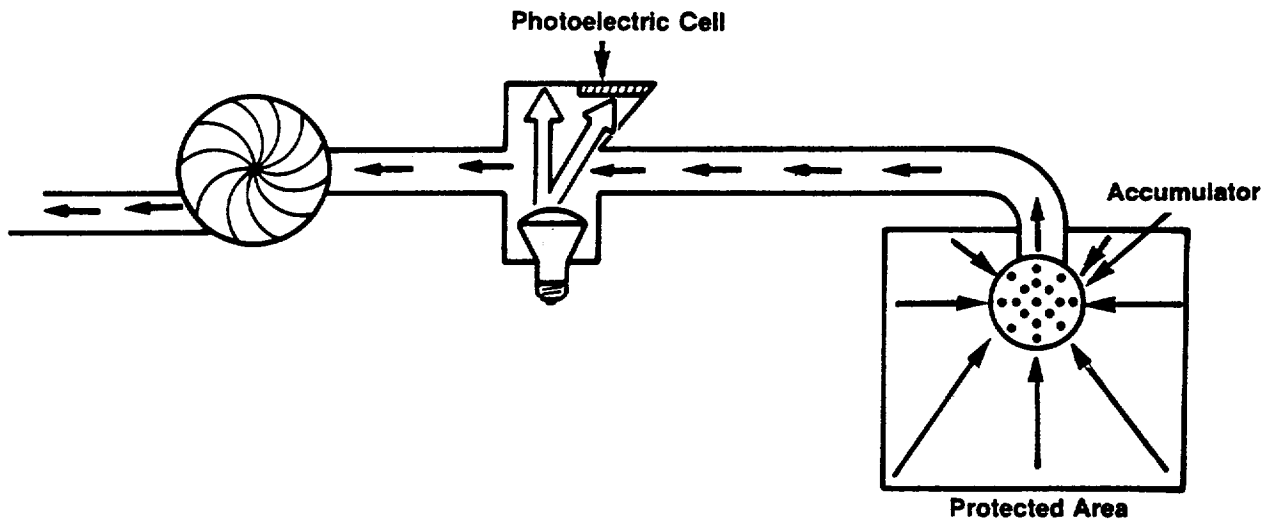

Figure 2-2. Light Being Scattered By Presence of Smoke in Viewing Path
- 2.3 When smoke is present in the air sample, it causes the light to scatter, permitting some light to reach the photoelectric cell (Figure 2-2). At a factory calibrated level, the electric circuitry will cause the module to lock into the alarm mode, originating the specified audible and visual alarm signals.